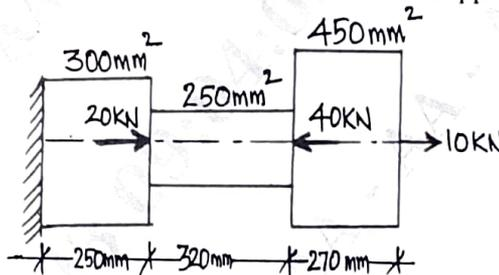

Fig Q2(c)
- c. A stepped bar with 3 different portion has fixed support at one of its ends. The stepped bar is subjected to forces as shown in Fig Q2(c). Determine the stresses and deformation induced in each portion. Also find the net deformation induced in the stepped bar. Take $E = 200 \text{ GPa}$.